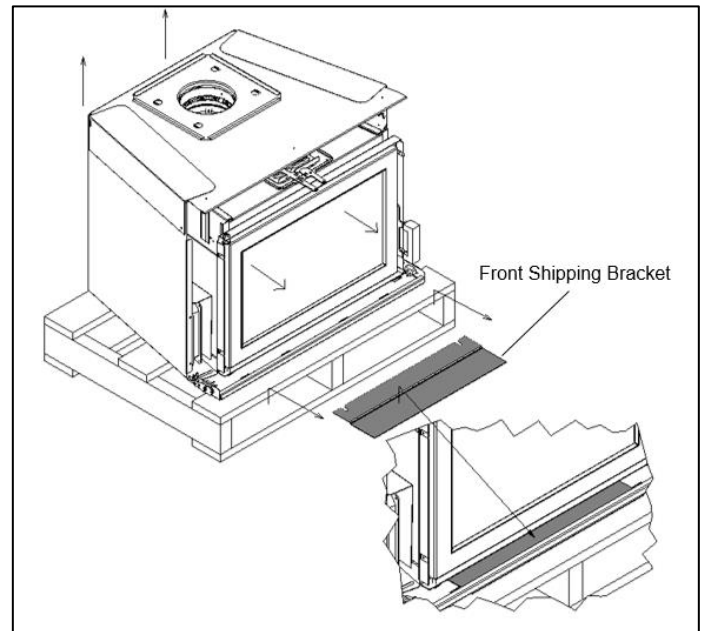

Figure 14: LUMIS Removal From Pallet
- Unfasten and remove the front shipping bracket (Figure 14). Note that after removal of the front shipping bracket, the firebox of the FUSION 18 will be able to slide forward.
- Remove the screws from the back of the pallet to free the circulating chamber (Figure 14).